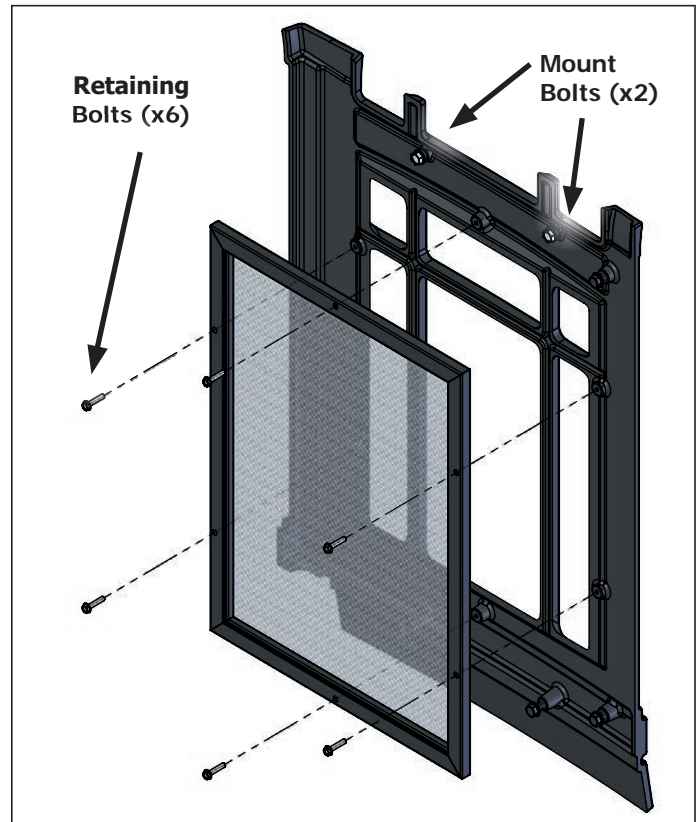

Figure 49. Safety Screen Removal - Side
Step 6: Remove the six (6) retaining bolts (Figure 49) using a 1/4" socket and remove the damaged screen while noting the orientation. Install the new screen (50-2344) by simply re-installing the retaining bolts.
Step 7: Re-install the cast side and tighten the two (2) top mount bolts. Re-install the cast door and top to finish.